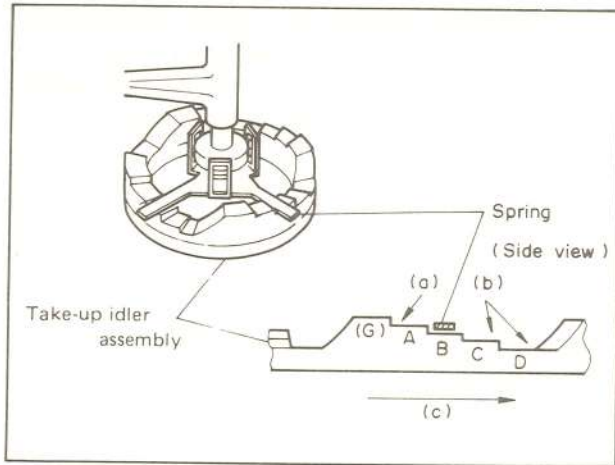

Fig. 4-15 Take-up idler assembly
1. If the take-up torque is less than proper torque, adjust the position of spring of the take-up idler assembly in the direction of arrow (a) as shown in Fig. 4-15, then measure the take-up torque again.
2. If the take-up torque is greater than proper torque, set the spring of take-up idler assembly in the direction of arrow (b) as shown in Fig. 4-15, then measure the take-up torque again.